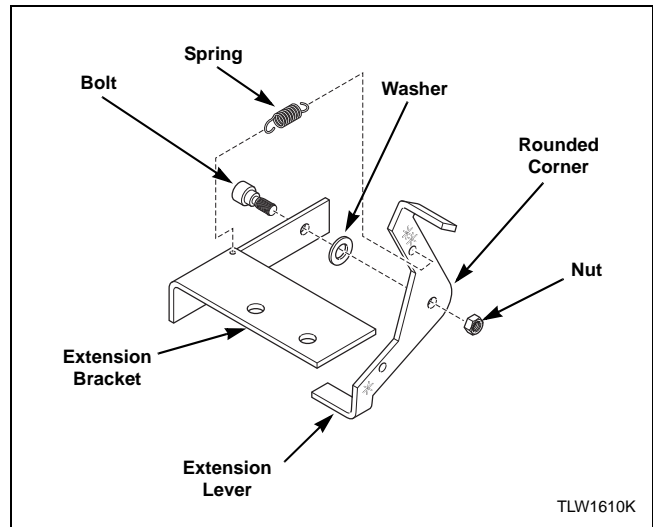

Figure 40
3. Install extension lever with rounded corner facing away from extension bracket using bolt, flat washer and nut. Refer to Figure 40.
4. Install spring to extension bracket with hook facing down. Install other end of spring to extension lever with hook facing left while standing in front of unit. Refer to Figure 40.